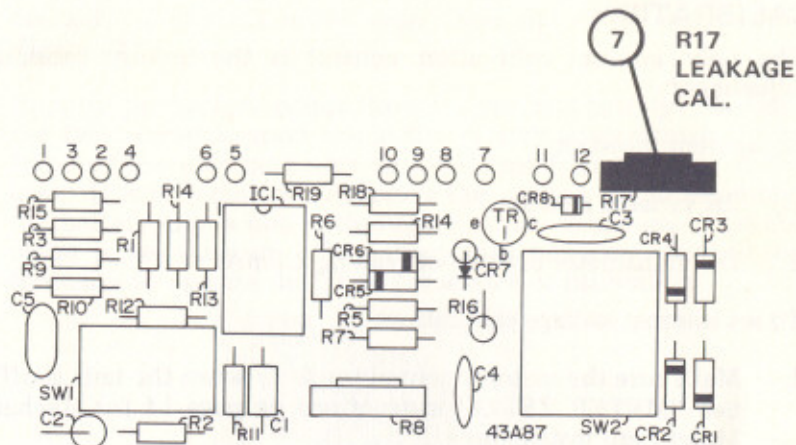

Fig. 24 Leakage Calibration
7. Adjust R17 until the TF40 meter reads full scale. (Fig. 24)